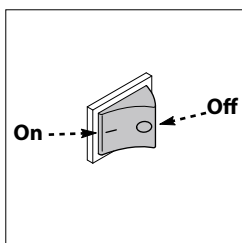

Fig. 17
- When your power washing session has been completed, turn off the power switch located on the back of the power washer (Fig. 17). Unplug the power cord from the outlet. Turn off the water supply. Pull the trigger on the spray gun 2-3 times to drain out the excess water and to release any remaining water pressure. Disconnect the garden hose from the water inlet. **Do not allow the power washer to run with no water flowing through it.**